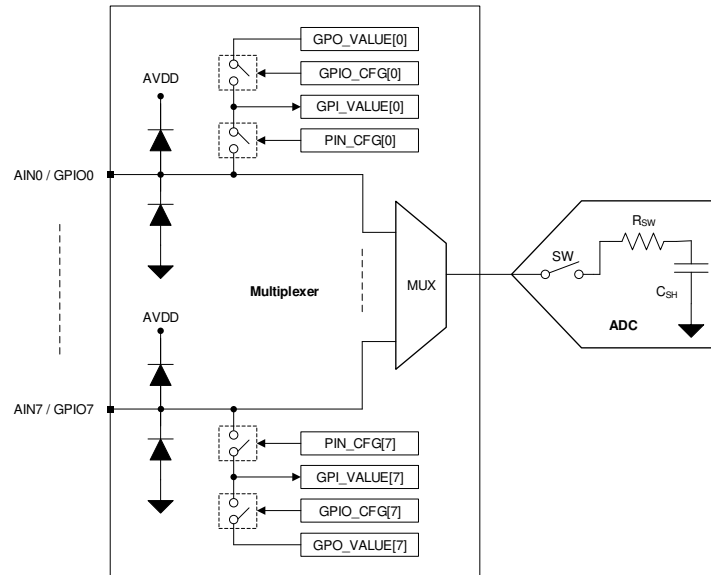

图 6-1. Analog Inputs, GPIOs, and ADC Connections
The eight channels of the multiplexer can be independently configured as ADC inputs or general-purpose inputs/outputs (GPIOs). As shown in 图 6-1, each input pin has ESD protection diodes to AVDD and GND. On power-up or after device reset, all eight channels of the multiplexer are configured as analog inputs.
图 6-1 shows an equivalent circuit for the pins configured as analog inputs. The ADC sampling switch is represented by an ideal switch (SW) in series with a resistor ( $R_{SW}$ , typically  $150 \Omega$ ) and a sampling capacitor ( $C_{SH}$ , typically  $30 \text{ pF}$ ). During acquisition, the SW switch is closed to allow the signal on the selected analog input channel to charge the internal sampling capacitor. During conversion, the SW switch is opened to disconnect the analog input channel from the sampling capacitor.
To enable write access to the configuration registers for diagnostics, write 0x96 in the DIAGNOSTICS\_KEY register. To enable bit-walk test mode, configure BITWALK\_EN = 1b. In the bit-walk test mode (see 图 6-1), the sampling switch (SW) remains open and the test voltage is applied on the sampling capacitor (CSH) during the acquisition phase of the ADC. In diagnostic mode, the conversion process of the ADC remains the same as normal device operation. The ADC starts the conversion phase on the rising edge of  $\overline{CS}$  and outputs the code corresponding to the sampled test voltage. The output code of the ADC is expected to be proportional to the test voltage, as shown in 方程式 2, after adjusting for DC errors (such as INL, gain error, offset error, and thermal drift of offset and gain errors).